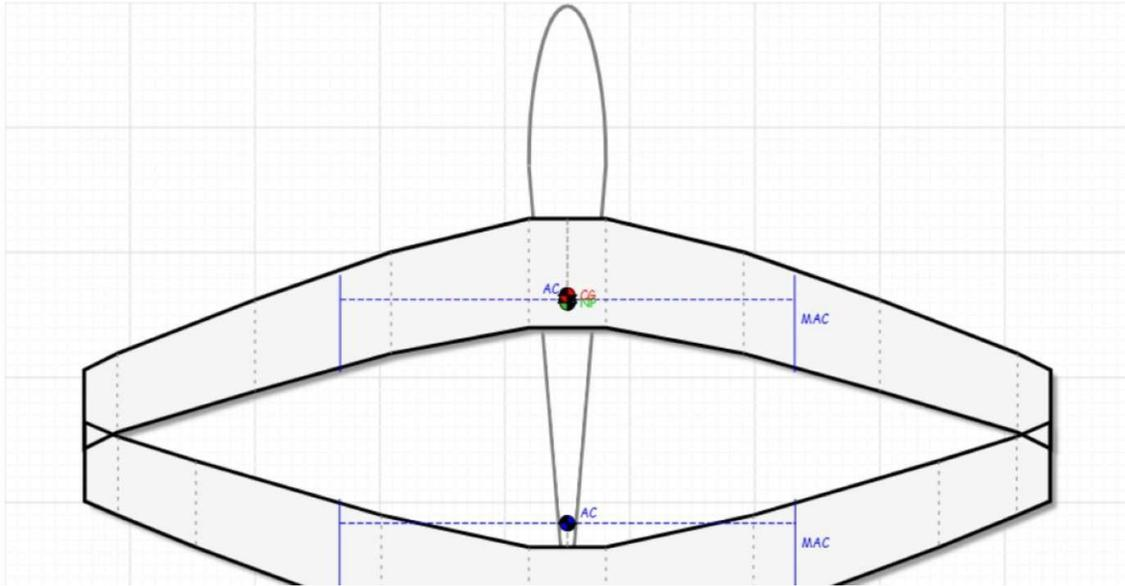

Figure 19 - X-100 eCalc Results
As I've done for all my RC model builds, the next step was to check and verify the models Center of Gravity (CG). While the X-100 Build Guide states the CG should be 45mm in front of the aft edge of the front wing. I wanted to do a double check on this by running a CG calculation based on the actual X-100 physical structure and related "aerodynamic" areas. I plugged the required measurements of my X-100 model into a **very nice** online CG calculator from eCalc (<https://www.ecalc.ch>) to calculate the "required" CG range based on a measurement from the leading edge of the wing. After inputting all the required measurements as shown in Figure 18, the results are then shown in Figure 19.